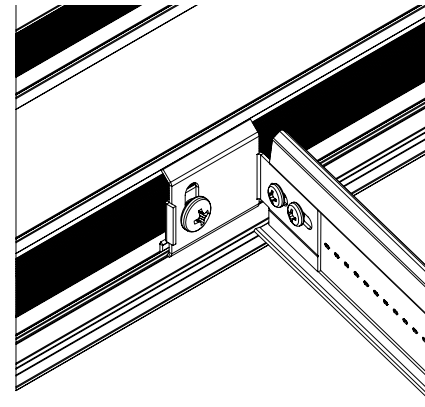

Fig 43
- Single cross tees are attached to Axiom trim by screw attachment to an AXTBC that is field modified to match the angle of the cross tee (**Fig 43**).